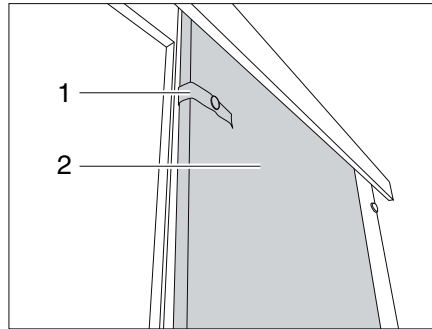

Fig. 222 Sliding door
- Release the securing strap (Fig. 222,1).
- Pull the sliding door (Fig. 222,2) into the closing position.
- Push the sliding door (Fig. 222,2) into the open position.
- Secure the sliding door with the securing strap (Fig. 222,1).